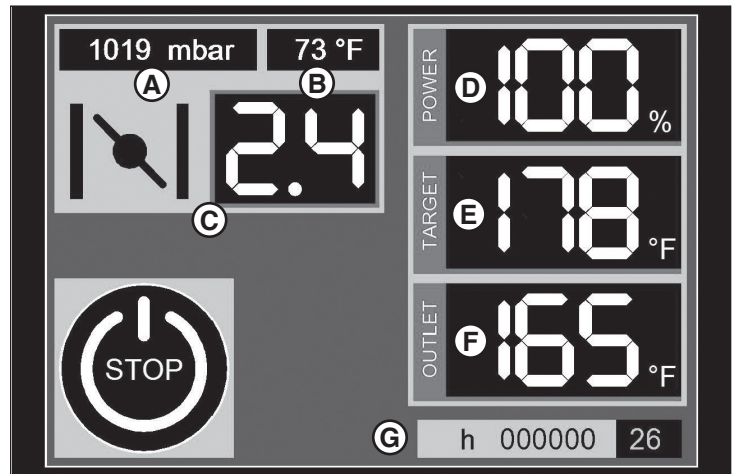

Figure 29
- Once the fan has started, the RUN screen will appear (Figure 29). The following information will be displayed:
- (A) Barometric pressure in millibar.
- (B) Ambient temperature in degrees Fahrenheit.
- (C) Damper setting
- (D) Efficiency of the heater unit in percentage.
- (E) Target outlet temperature in degrees Fahrenheit.
- (F) Actual outlet temperature in degrees Fahrenheit.
- (G) Total hours on the heater unit.